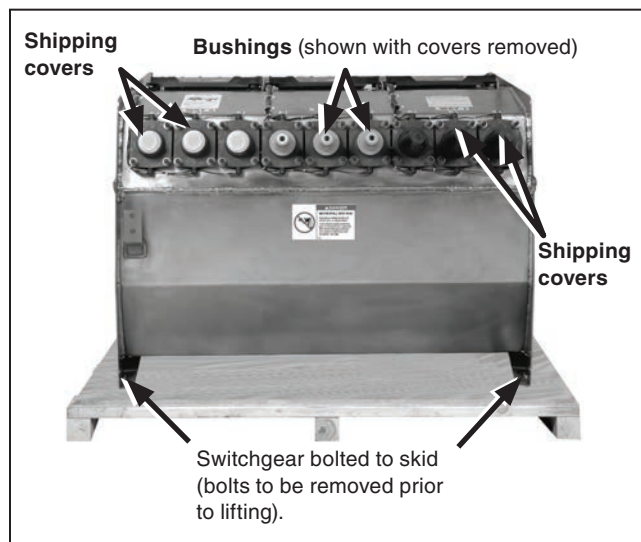

Figure 4. Switchgear is bolted to skid in four places for shipment.
STEP 1. Remove any packing or foam from around the viewing window and check the gas pressure gauge to make sure it is in the Green zone. Contact S&C Electric Company if the gas pressure gauge is not in the Green zone. See the “Gas-Pressure Gauge” section on page 18 for more information. Unbolt the tank from the skid, remove the switchgear from its crate, and lift the gear into place, observing the precautions given in the “Handling” section on page 8. See Figure 4.